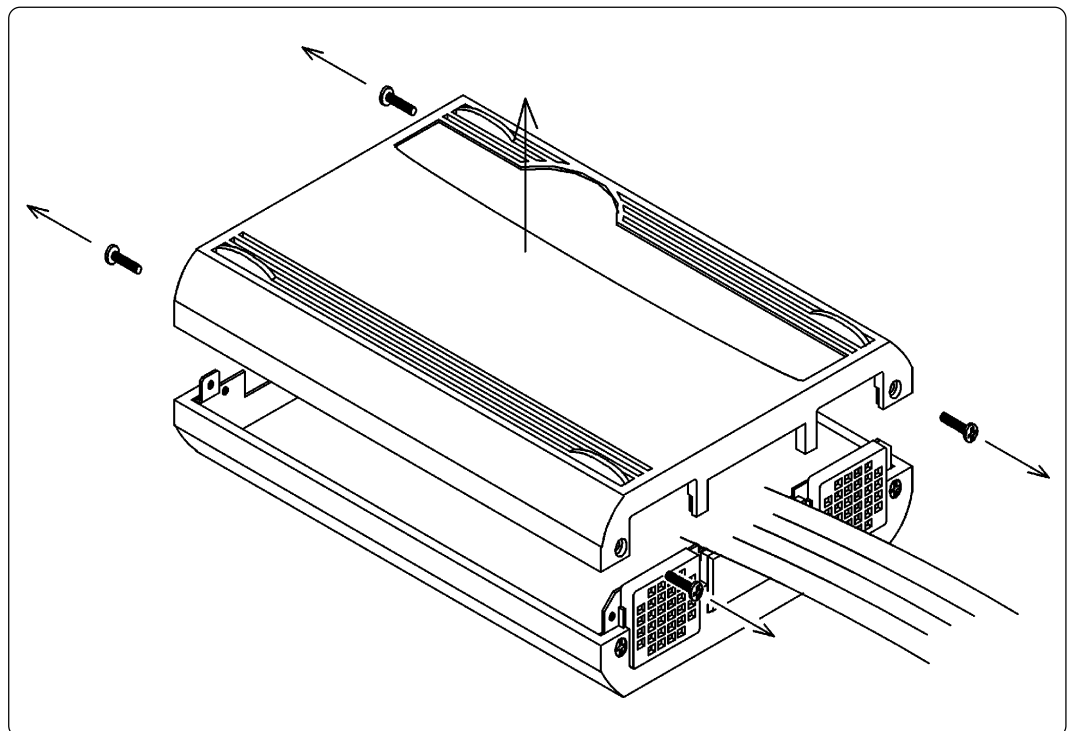

Figure 3.1 Removing the upper cover
- (1) Remove the four screws of both sides of this product and lift off the upper cover (see Figure 3.1).
- (2) Set the jumper switches.
- (3) Replace the upper cover and secure the four screws.